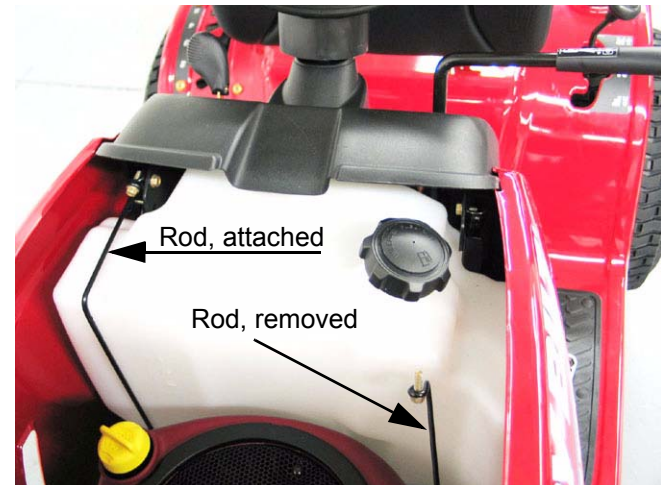

Figure 4.3
- 4.3. The fuel tank is now secured by a pair of fuel tank support rods, rather than a single rod. See Figure 4.3.